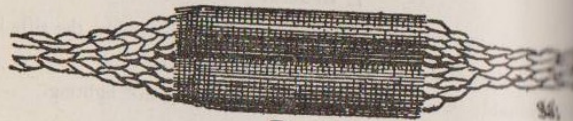

Fig. 2
- v. Fitting gauze.—In war-time the gauze will be kept fitted to the pull-through. To fit it, fold it as in Fig. 2, the longer sides taking the shape of an "S." Open the loop of the pull-through nearest the weight and put one side of it in each loop of the "S." Coil each half of the gauze tightly round the cord until the two rolls thus formed meet. Remove loose strands. To make the gauze fit the bore tightly, pack it with a small piece of flannelette if necessary. The gauze will always be oiled before use.